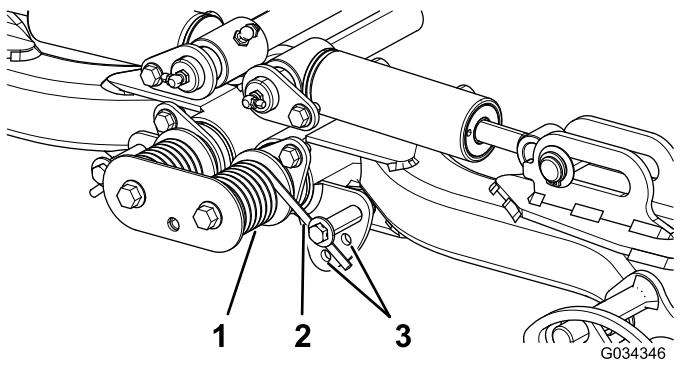

Figure 33
3. While relieving the spring tension, remove the bolt and locknut securing the spring actuator to the bracket (Figure 33).